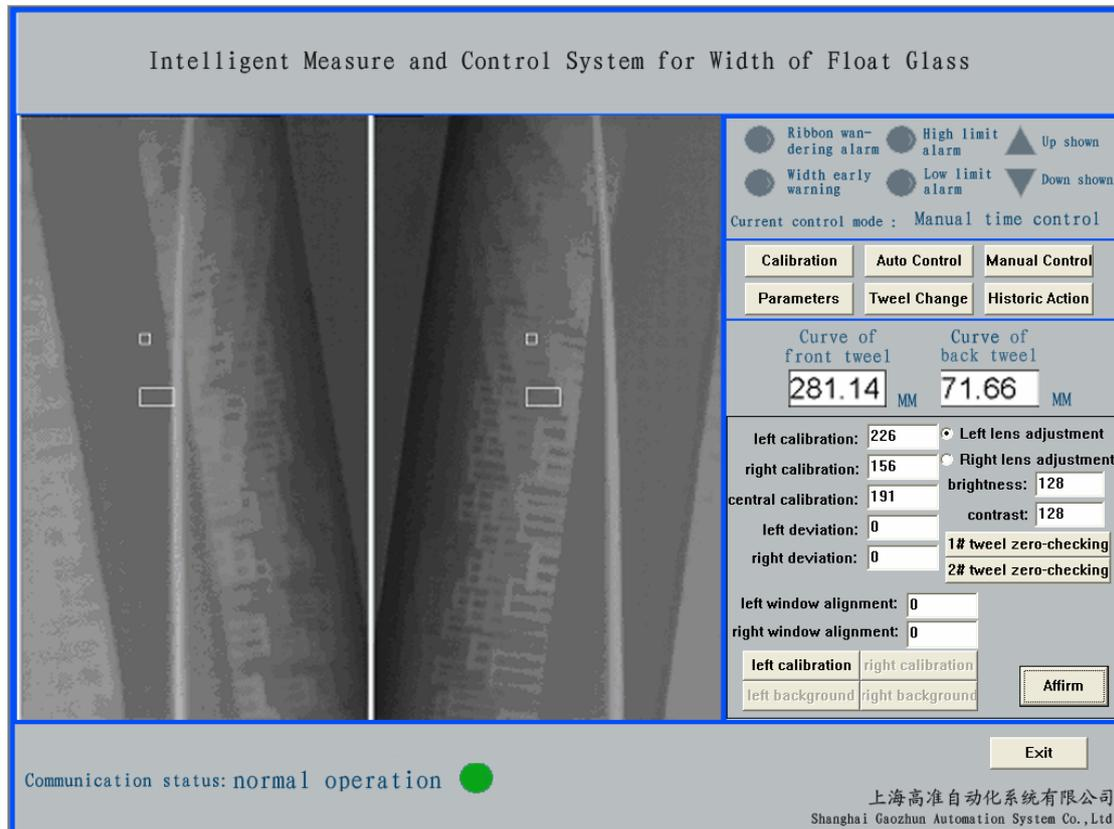

Fig. 6 Interface for Calibration
5.2 When click the button of “calibration” with the left key of mouse, it will enter into the interface for calibration, as shown in Fig. 6